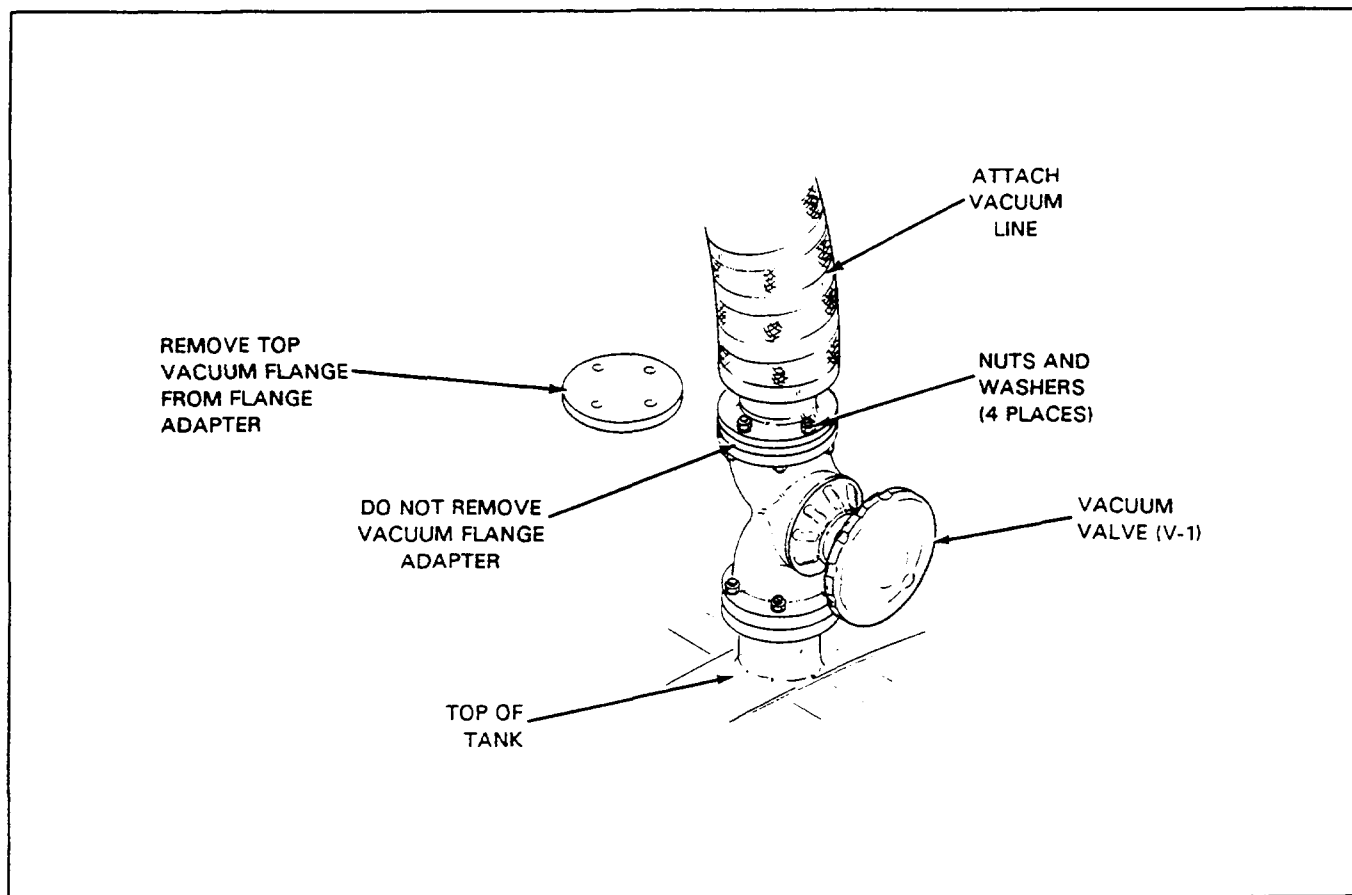

Figure 5-1. Evacuation of Annular Space using Vacuum Valve Assembly
5-9. BREAKING THE ANNULUS VACUUM (See Figure 5-1).
a. Remove the vacuum flange from the vacuum flange adapter on the top rear of the storage tank (Figure 5-1).
5-10. STORAGE TANK ANNULUS EVACUATION (PUMPDOWN) (See Figure 5-1).
b. Remove the vacuum flange from the vacuum flange adapter on top of the storage tank, as shown in Figure 5-1.